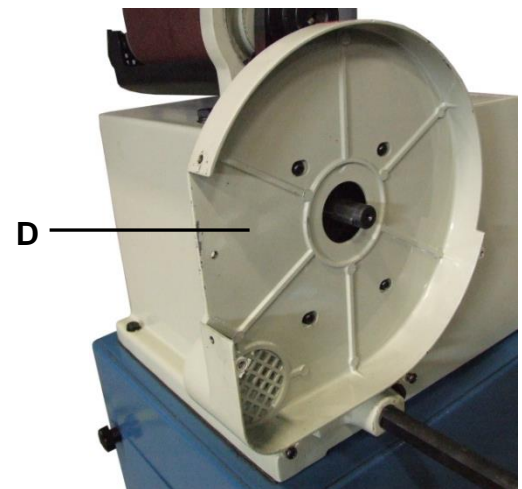
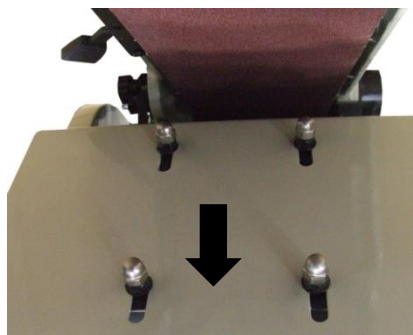
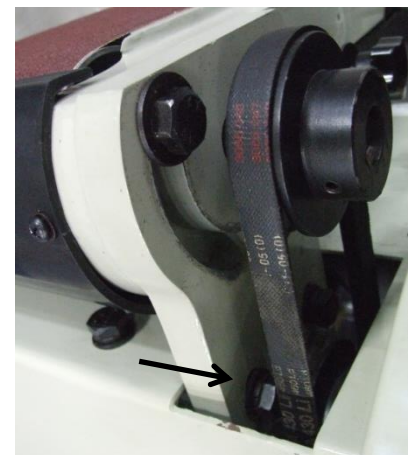

figure 11
figure 12
figure 13
4. Remove the disc shroud (**D**) held on with (4) screws (fig. 11).
6. Remove the (4) bolts, washers, and nuts holding the sander to the stand. (To get access to the nuts, remove the back panel on the stand.
8. Release the tension on the two V-belts. (Fig. 12) shows the adjustment nuts for the motor belt and (fig. 13) shows the adjustment bolts for the auxiliary belt.